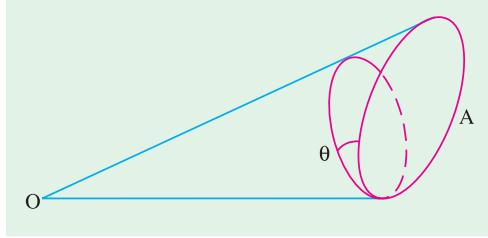

Fig. 49.16
**Solution.** Brightness  $B$  is defined as the luminous intensity divided by the projected area (Fig. 49.16).